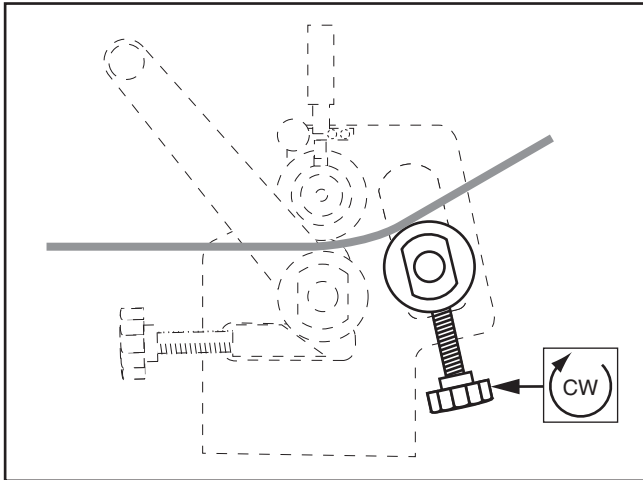

Figure 23. Setting bending radius.
5. Turn radius adjustment knobs to raise rear roller until desired radius bend is reached (see **Figure 23**). Make sure to turn knobs equal amounts so rear roller is always parallel with other rollers. Failure to do so will create a larger radius on one end than the other, resulting in a cone shape.